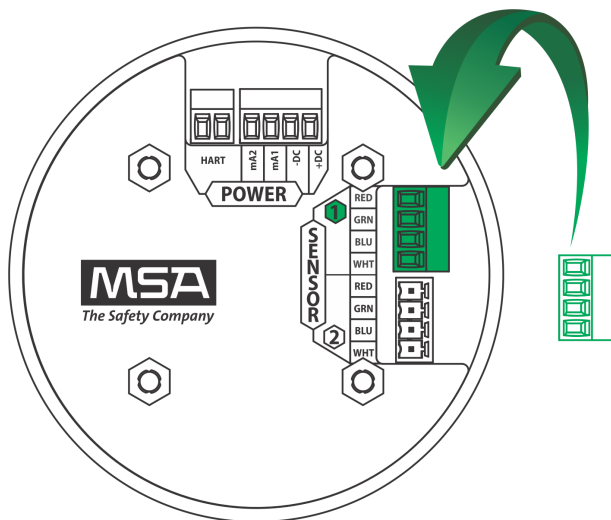

Fig. 33 Connecting a Sensor to the Board
- (9) Attach the connector to the board stack, making sure the appropriate wires are in the correct terminals.
- (10) Connect HART wires (for optional local HART port).
- (11) Connect an XCell or XIR PLUS sensor using the green connector. Sensor wires are already connected as shown on the cover plate (see Fig. 33):